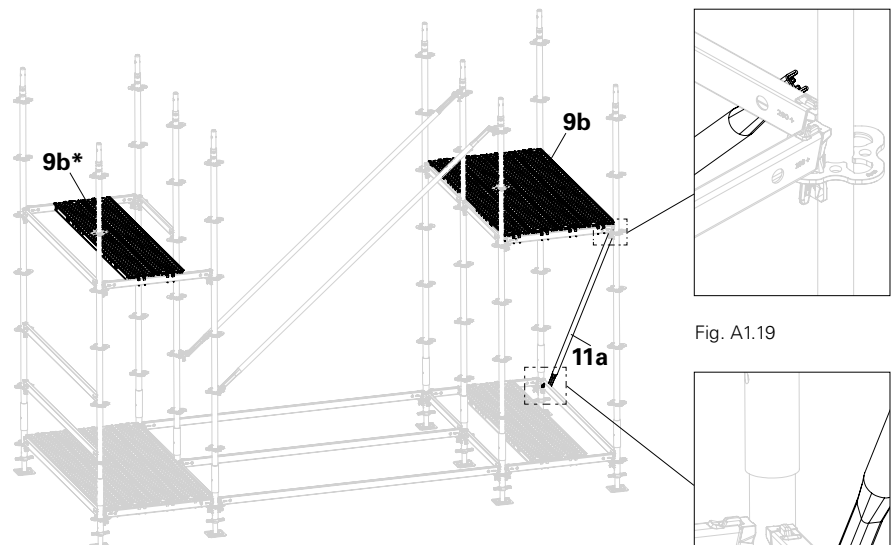

Fig. A1.18
2. Insert Steel Decks UDG (assembly aid **9b***). (Fig. A1.18)